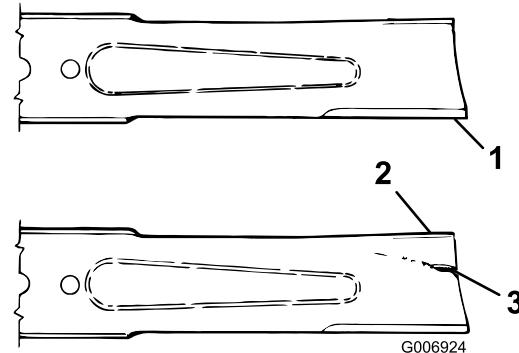

Figure 101
3. Examine the cutting ends of the blade carefully, especially where the flat and curved parts of the blade meet (Figure 101).
4. If wear is noticed (Figure 101), replace the blade; refer to Servicing the Blade Plane \(page 69\).
If the blade is allowed to wear, a slot will form between the sail and flat part of the blade (Figure 101). Eventually a piece of the blade may break off and be thrown from under the housing, possibly resulting in serious injury to yourself or bystanders.